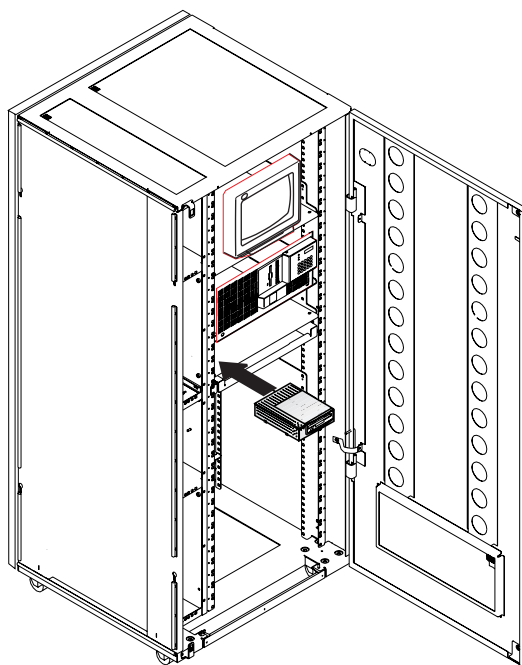

Figure 22. Installing the Optical Drive
- 8. Install the optical disk drive close to the Service Processor as shown in Figure 22.